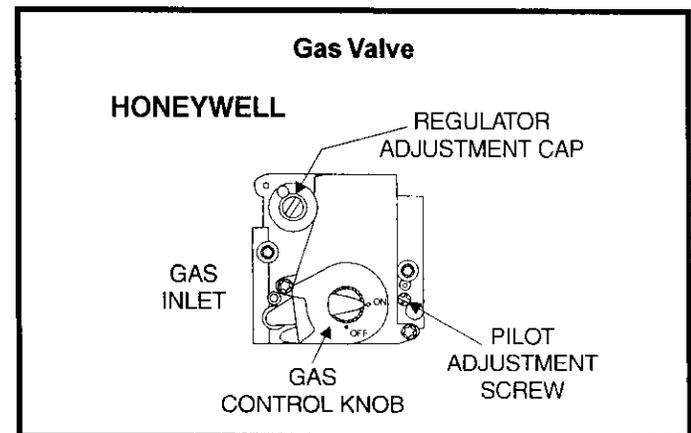

Figure 1
4. Turn the gas valve knob to "ON" position. See Figure 1.
There are many types and styles of thermostats. Yours may look different from the one pictured in Figure 1. However, almost all thermostats perform the same basic functions described in the following section.